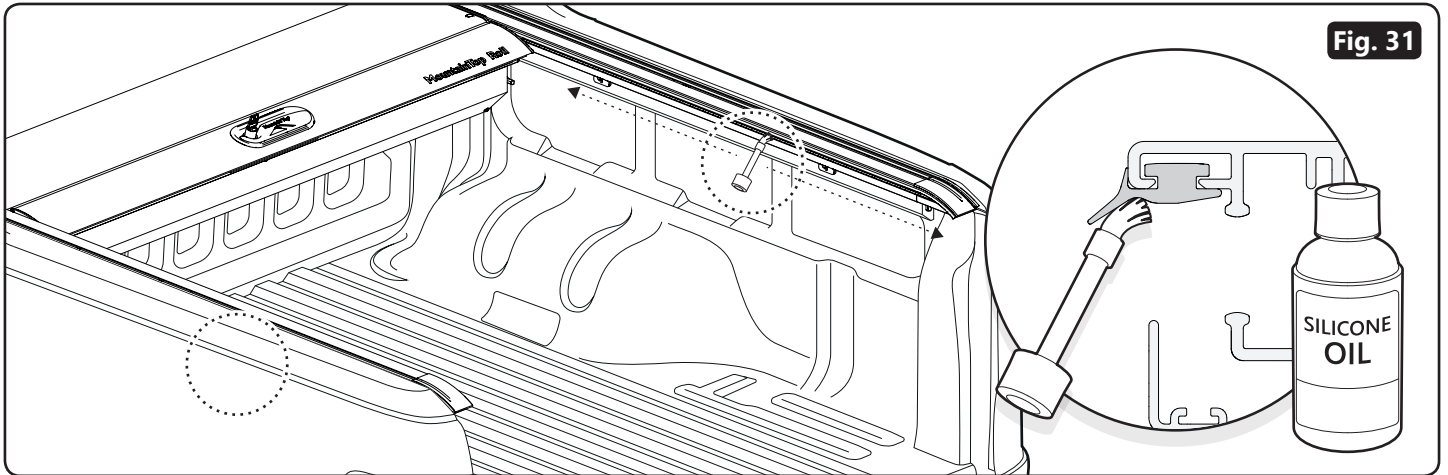

Fig. 31
- Seals and side profiles should be cleaned and lubricated regularly using silicone (e.g. Würth Silicone Oil), or similar. **(Fig. 31)**